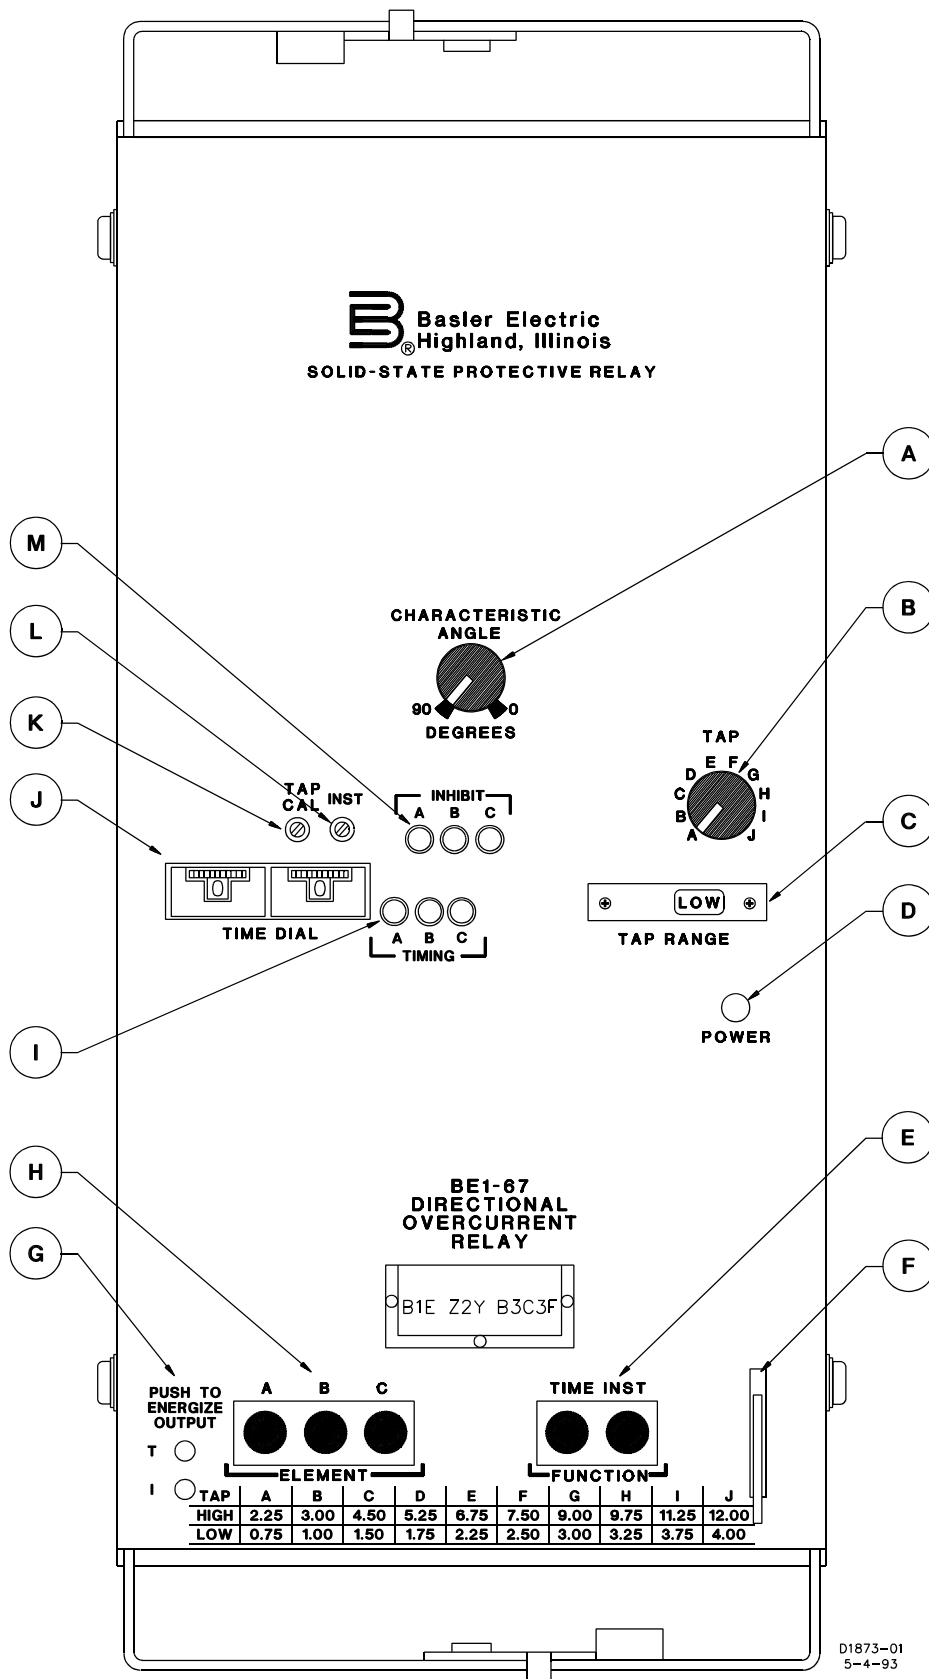

Figure 2-1. BE1-67, Three-Phase Relay With Characteristic Angle Control Knob
Table 2-1. BE1-67 Controls And Indicators (refer to Figures 2-1, 2-2, and 2-3)
*Table 2-1. BE1-67 Controls And Indicators (refer to Figures 2-1, 2-2, and 2-3) - Continued*